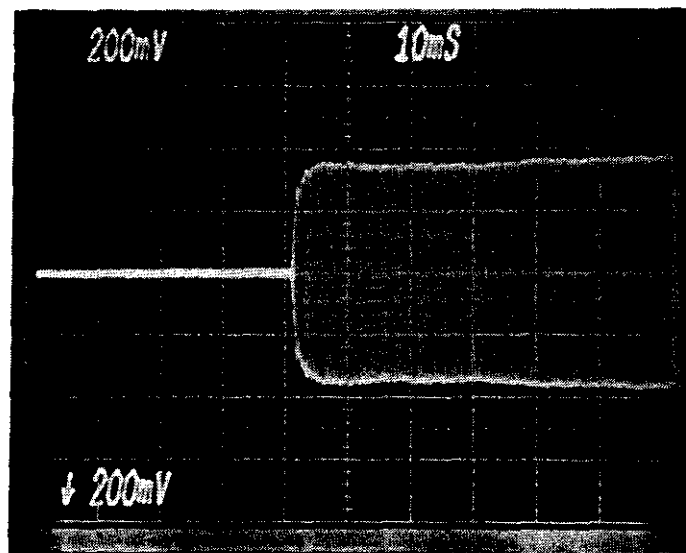

FIGURE 38. HEAD LOAD TIMING
- (1) Sync oscilloscope on TP 11 (+ Head Load). Set time base to 10 msec/division. Connect one probe to TP1 and the other to TP2. Ground the probes on TP5. Set the inputs to AC couple, add and invert one input. Set the vertical deflection to 200 mv/division.
- (2) Select the side 1 head, energize the head load solenoid and observe the read signal on the oscilloscope. The read signal should begin between 35 and 45 msec (see Figure 38).